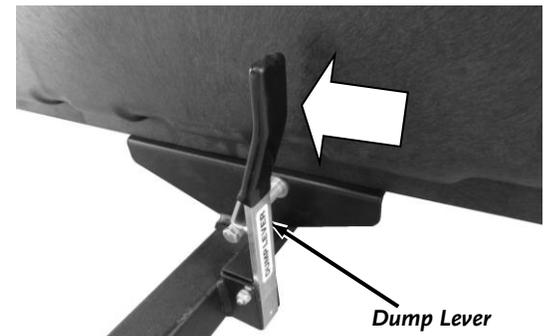
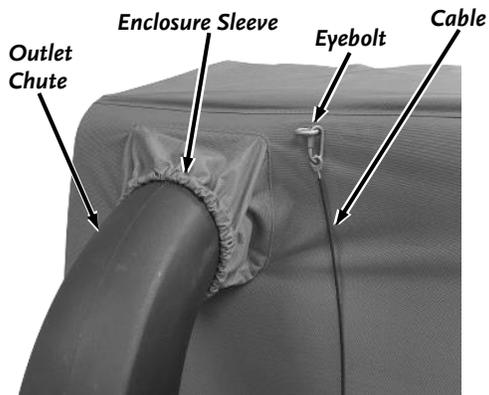
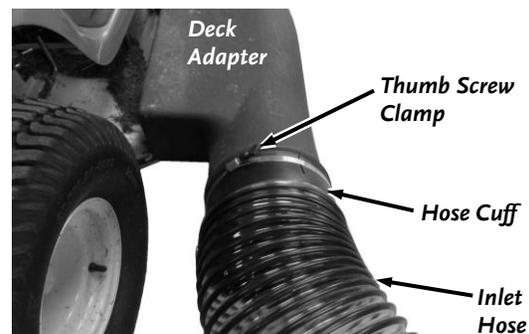

Figure 77
Figure 78
Figure 79
3. Make sure the Collector Cart is on the Frame with the Dump Lever locked over the Latch Pin (**Figure 77**), the Enclosure Sleeve is over the Outlet Chute (**Figure 78**), and the Inlet Hose Cuff is securely attached to the Deck Adapter on your Tractor (**Figure 79**).